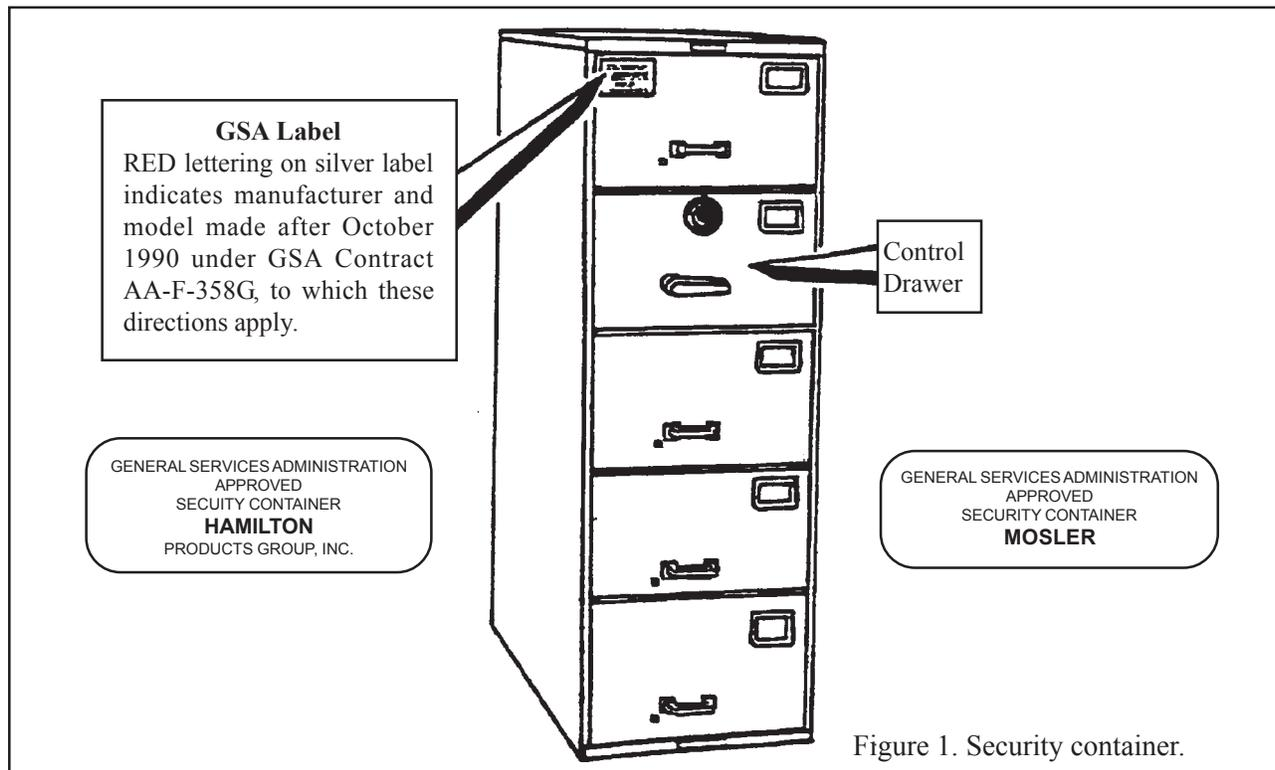

Figure 1. Security container.
tached to the face of the cabinet. GSA labels on cabinets purchased before October 1990 are silver with **BLACK** lettering. Labels on cabinets purchased after that date are silver with **RED** lettering. (See Figure 1.)
1. Identify the container as a Class 6 red-label GSA approved security filing cabinet (see Figure 1). The face of a Class 6 cabinet drawer will be approximately 1/8-inch thick, and will
2. Determine, from the external label, whether it was made by Mosler or Hamilton Products Group. Refer to Figure 1.